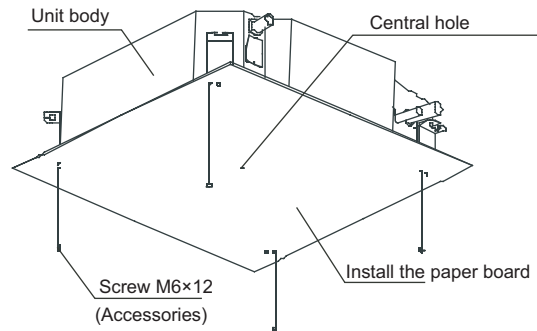

Fig. 4-5
- 2 After installing the body, please fasten the installation paper board onto the air conditioner with bolts(M6X12) to determine in advance the sizes and positions of the hole opening on ceiling.(refer to Fig. 4-5)